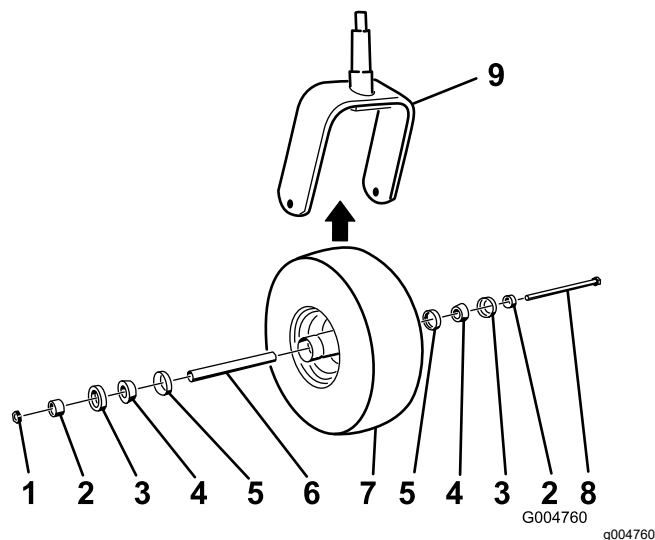

Figure 48
2. Remove the locknut from the bolt (Figure 48).
5. Assemble the caster wheel by pushing the cone bearings and seals, packed with grease, into the wheel hub, positioned as shown in Figure 48.